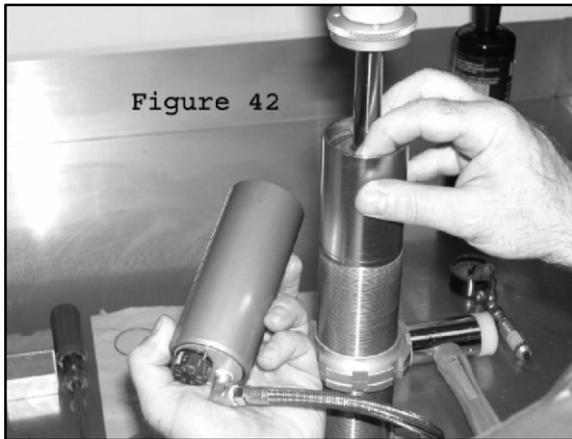

Figure 42
- 77. Hold the shaft eyelet with one hand. With other hand, slide the bearing assembly down the shaft until contact with oil is made. Find the bleed port in bearing assembly, and position it away from your face and body. With one hand, very slowly push the bearing assembly into body tube. Be sure to have a small container in your other hand to catch the excess oil as it flows out of the bleed port in the bearing. Do not allow the shaft to move as you push the bearing in until the bearing makes contact with the piston assembly. Then, push bearing and shaft assembly into body tube until it stops at the external o-ring of the bearing assembly. (Fig. 41) With one hand continue applying pressure to the bearing assembly. With other hand, set the compression adjustment knob to the #1 position. As you do this, the bearing and shaft assembly should push further into the body tube. Push the bearing and shaft assembly into the body tube until the retaining ring groove is exposed. (Fig. 42) Install the wire-retaining ring, and check to make sure retaining ring is properly seated.